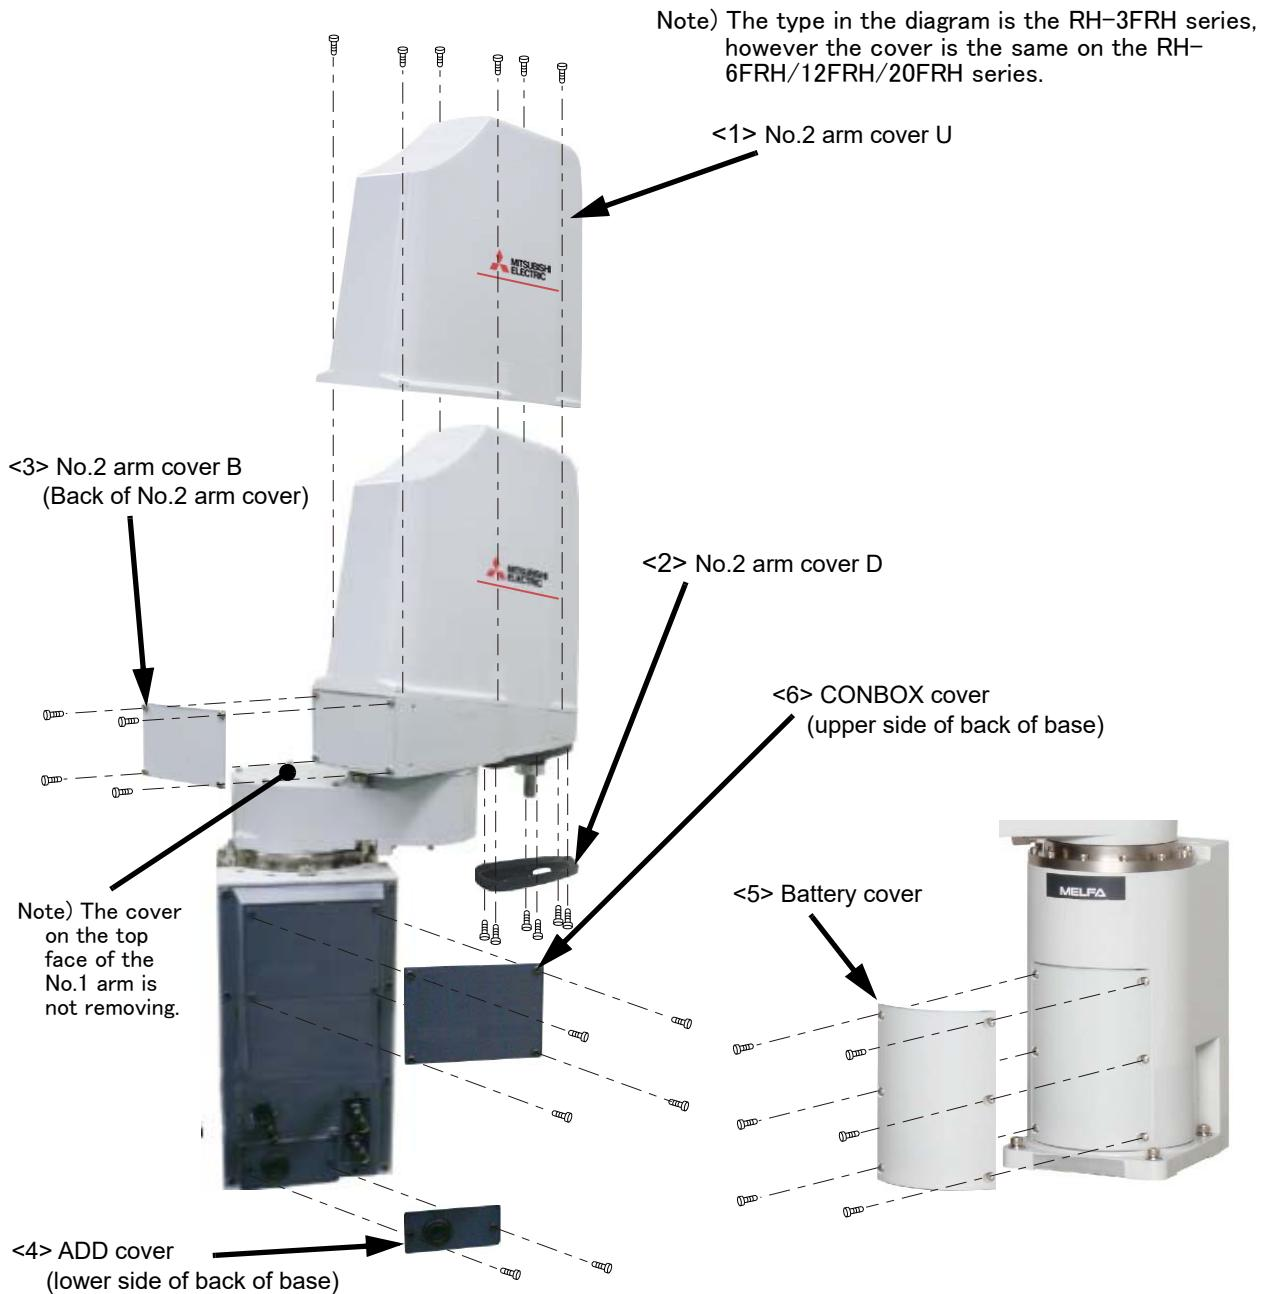

Fig.5-4 : Installing/removing the cover (RH-3FRH/6FRH/12FRH/20FRH series)
- (1) Refer to Fig. 5-4, and remove the covers.
- (2) The names of the cover and installation screw are given in Table 5-4. The number in Table 5-4 correspond to Fig. 5-4.
- (3) When reattaching the covers after a maintenance inspection, proceed in the reverse order of their removal.